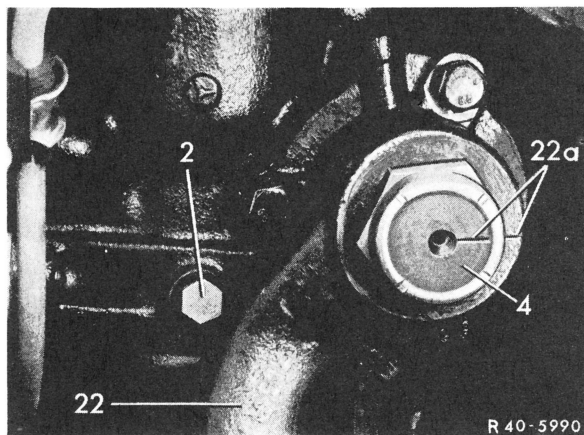

Fig. 12
For measuring the toe-in, the steering should be in center position. For this purpose, remove closing plug (2) and locate piston by inserting the center position control screw (65) (Fig. 12 and 13).